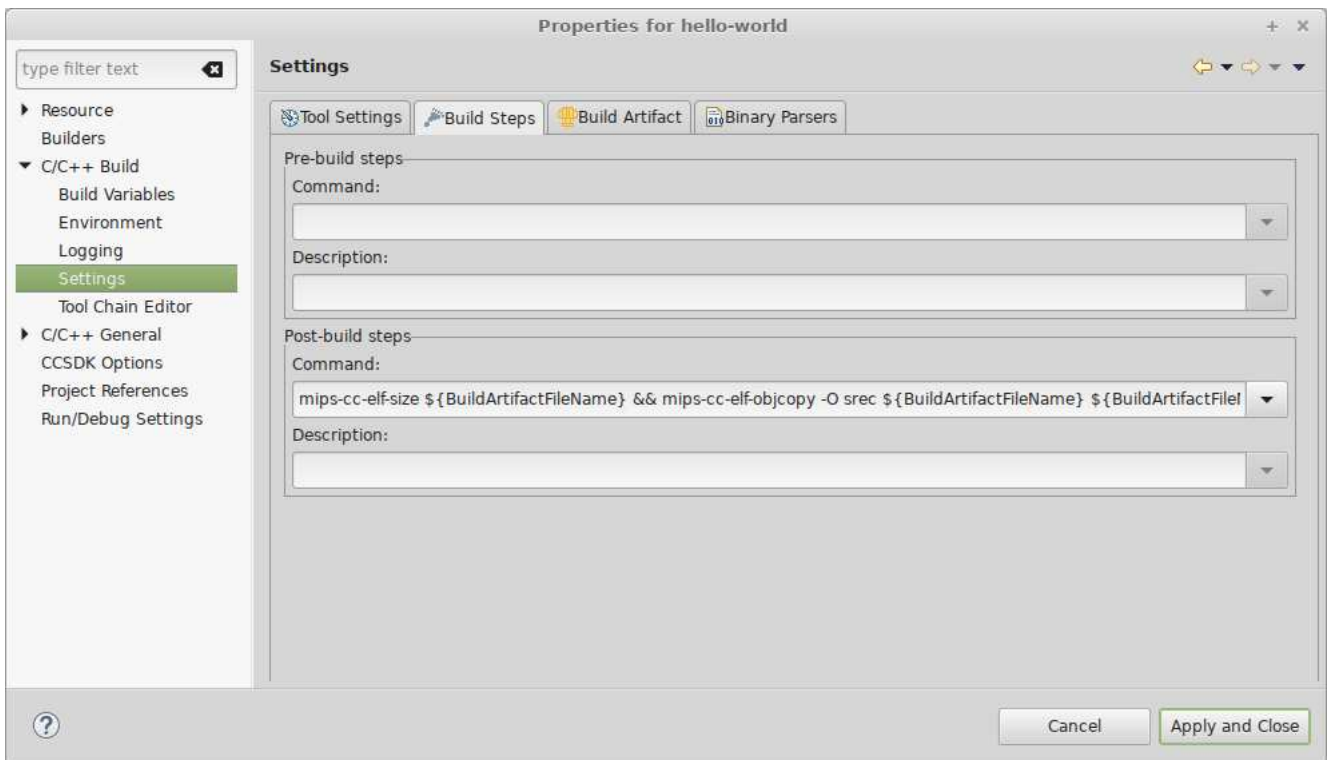

Figure 2.15. Build steps configuration.
**Build Steps** tab allows to configure additional commands to run before and after the build process (figure 2.15). Command running before build process is entered in *Pre-build steps* section. Commands running after build process are entered in *Post-build steps*. In Managed Build project CCIDE uses post-build step to print size of resulting binary and generate SREC file. You can add multiple commands in build steps by concatenating them using && operator.